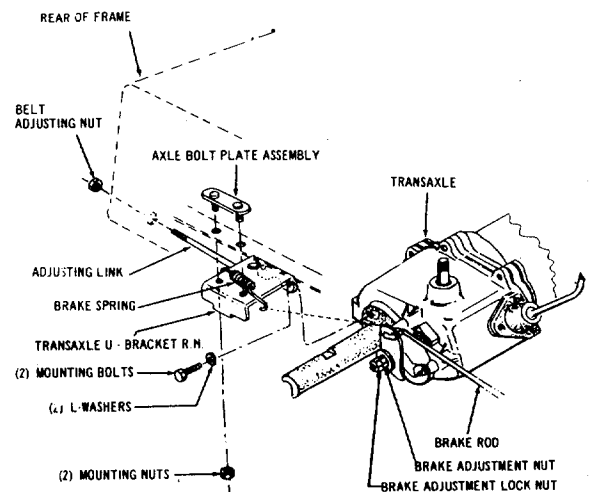

FIGURE 26. BRAKE ADJUSTMENT NUT
3. If adjustment is incorrect, tighten or loosen brake adjusting nut until correct dimension is obtained. See figure 26. Over tightening will reduce effective braking action. Lock brake adjustment with brake adjustment lock nut. Periodic adjustment is necessary to maintain effective brake operation.